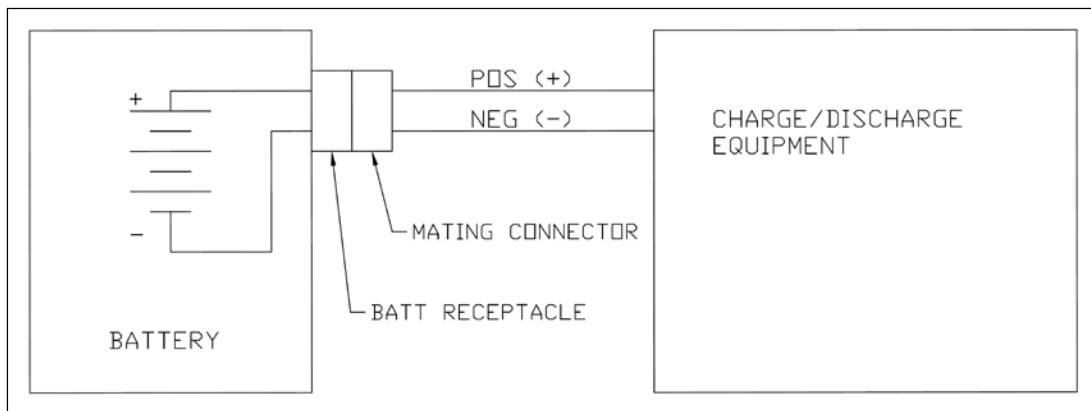

Figure 101. Test Set Up for RG® Series Main Batteries with Receptacles
- A. Refer to Figure 101 for a schematic of the test set up.